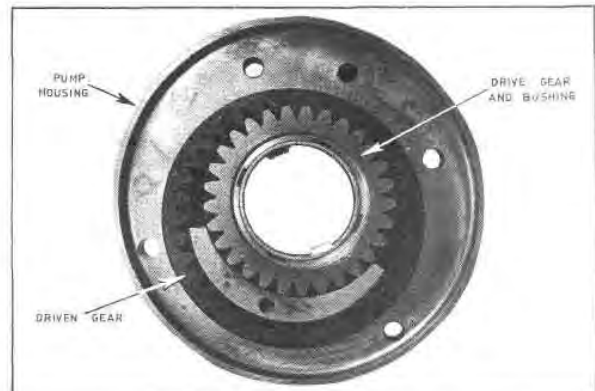

Fig. G84 — Pump Gear Installation
54. Invert the housing with the seal assembled and install the pump gears as shown in Figure G84.